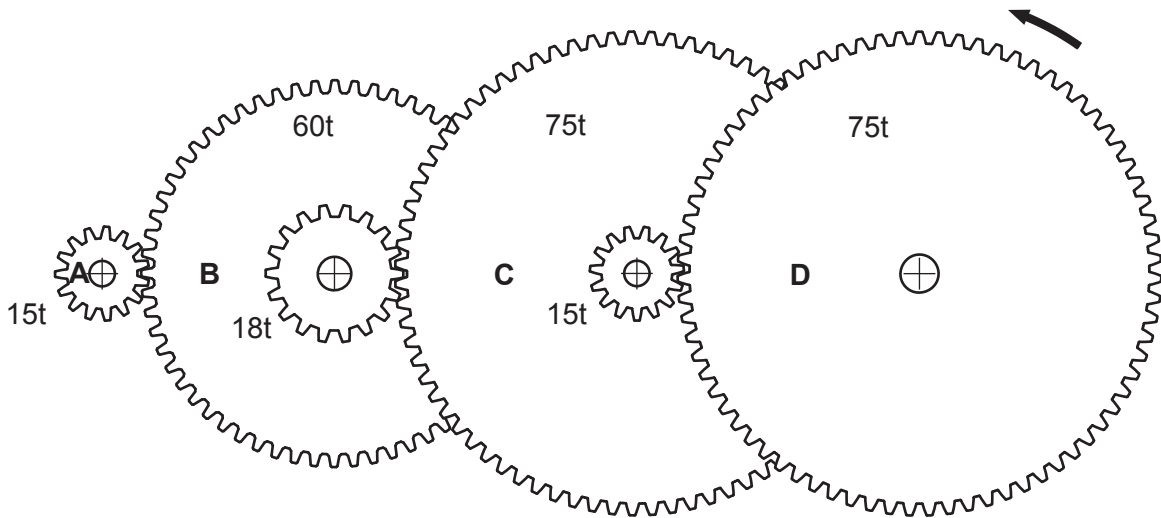

Fig. 11.3
- (iv) Fig. 11.3 shows a compound gear arrangement from input gear **A** to output gear **D**.
- (v) Indicate on Fig. 11.3 the direction of rotation of input gear **A**. [1]